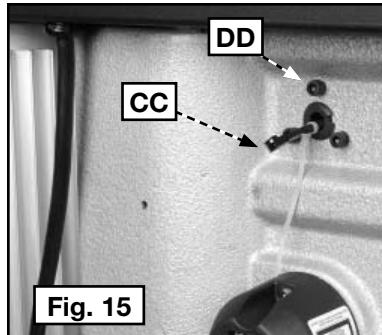

Fig. 15
The included LED work light is to be attached to the side of the headstock at wire (CC) Fig. 15.
**NOTE:** Prior to connection, be careful not to push wire (CC) into headstock as it is difficult to retrieve.
1. Remove three 6 mm screws (one shown at DD) Fig. 15.